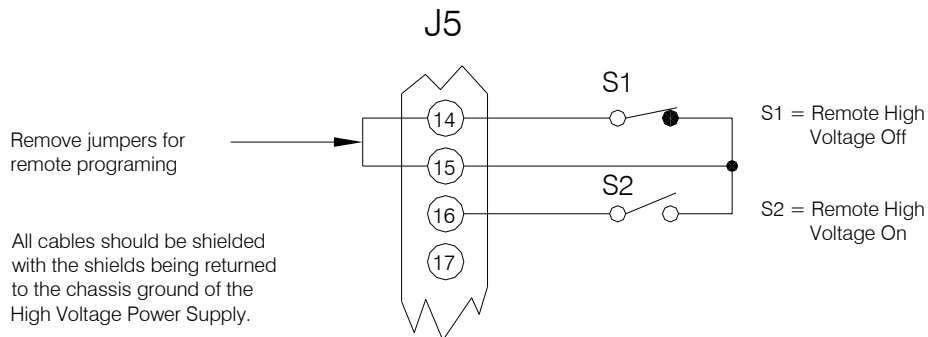

Figure 3.4 – Remote Control of High Voltage ON and High Voltage OFF Interface
- **REMOTE CONTROL:** Remote control of the HIGH VOLTAGE ON and HIGH VOLTAGE OFF can be accomplished via the rear panel interface. HIGH VOLTAGE OFF and HIGH VOLTAGE ON can be controlled by momentary normally closed and normally open contacts respectively. See Figure 3.4 on page 14 for the recommended interface.